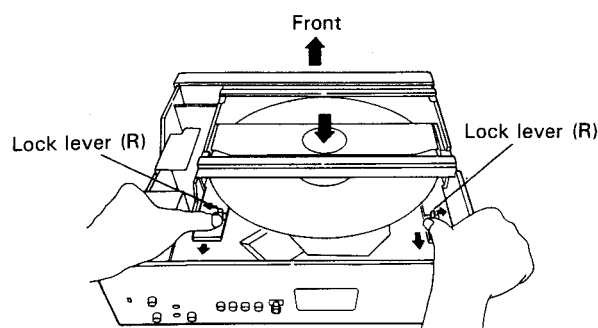

Fig.6
2. Pull the lock levers (L) and (R) toward the rear while being pushed outwards, the clammer is lowered to clamp the disc. Check that the disc has been properly clamped by turning the clammer by hand. (Fig.6)